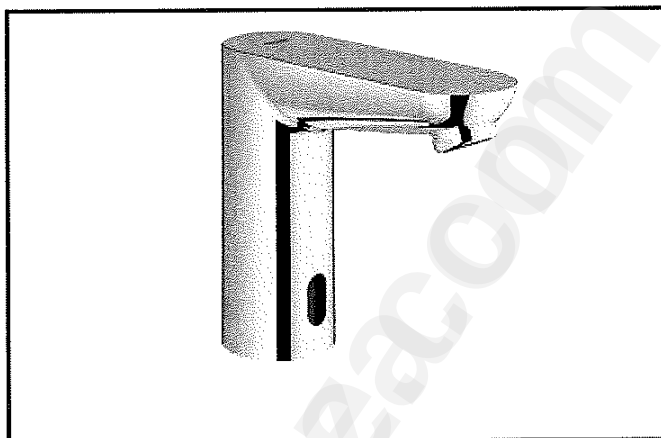

FIGURE 4.1
4.1 FIGURE 4.1 below shows a tap.